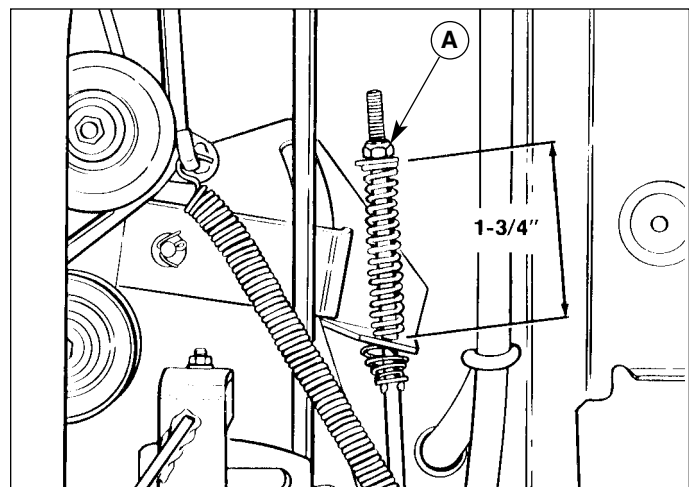

**Figure 10. Brake Adjustment – Hydro Models**
1. See figure 10. With parking brake released, rotate the brake cam (A) forward until it stops. There should be 5/16" gap between transaxle housing (B) and rear point of brake cam.
2. If adjustment is required, remove cotter pin (early models had an "elastic nut" instead of a cotter pin) and turn adjusting nut (C) until proper 5/16" clearance is achieved. Turning the nut in will decrease clearance, and turning the nut out will increase clearance. Install cotter pin (or nut) after adjustment.
4. The brake rod spring (D) should measure 2-7/8" when compressed. Turn the adjustment nut (E) as necessary to obtain correct spring length.